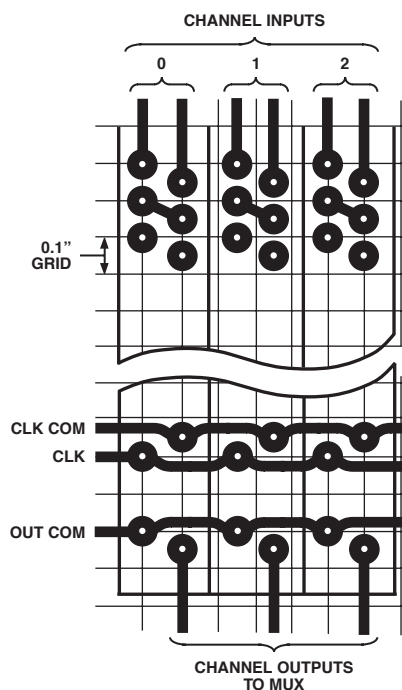

Figure 16a.
**PCB Layout for Multichannel Applications.** The pinout of the AD204Y has been designed to make very dense packing possible in multichannel applications. Figure 16a shows the recommended printed circuit board (PCB) layout for the simple voltage-follower connection. When gain-setting resistors are present, 0.25" channel centers can still be achieved, as shown in Figure 16b.